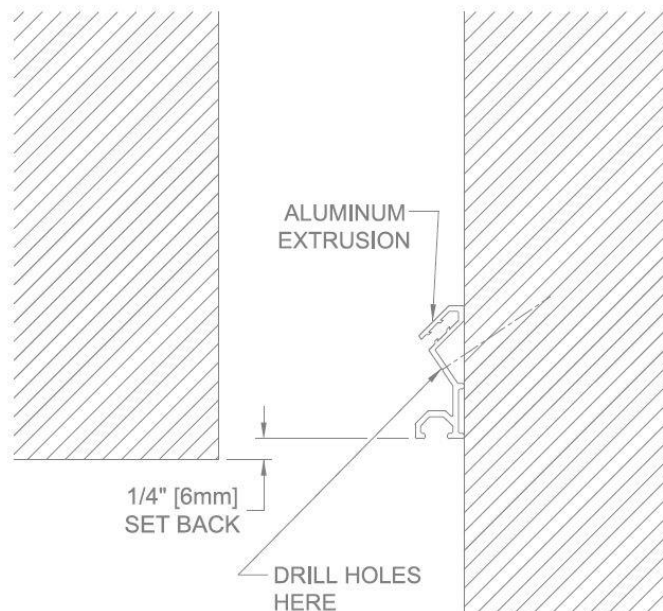

FIGURE 1
1. Position one of the frames onto the wall of the expansion joint and mark hole locations at 18” OC. (Reference shop drawings for more details) Drill $\text{Ø}3/16$ ” holes into the extrusions at the marked locations. When attaching to a concrete wall, drill a hole into the concrete at these locations with a $\text{Ø}5/32$ ” masonry bit. **See Figure 1.**